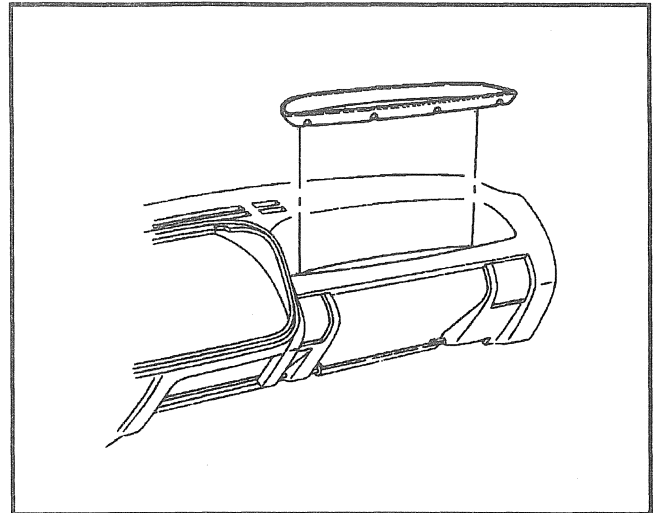

Figure 25—I/P Liner Assembly
16. I/P liner assembly (Figure 25).